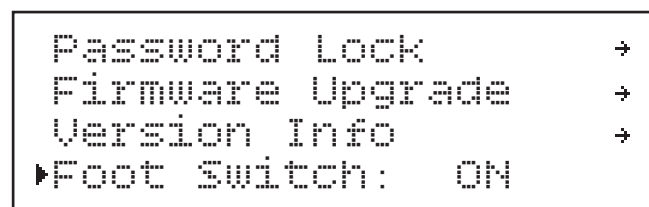

Figure 107. Foot Switch submenu.
1. Press Menu button and use spindle speed dial to scroll down to Foot Switch submenu, as shown in **Figure 107**.